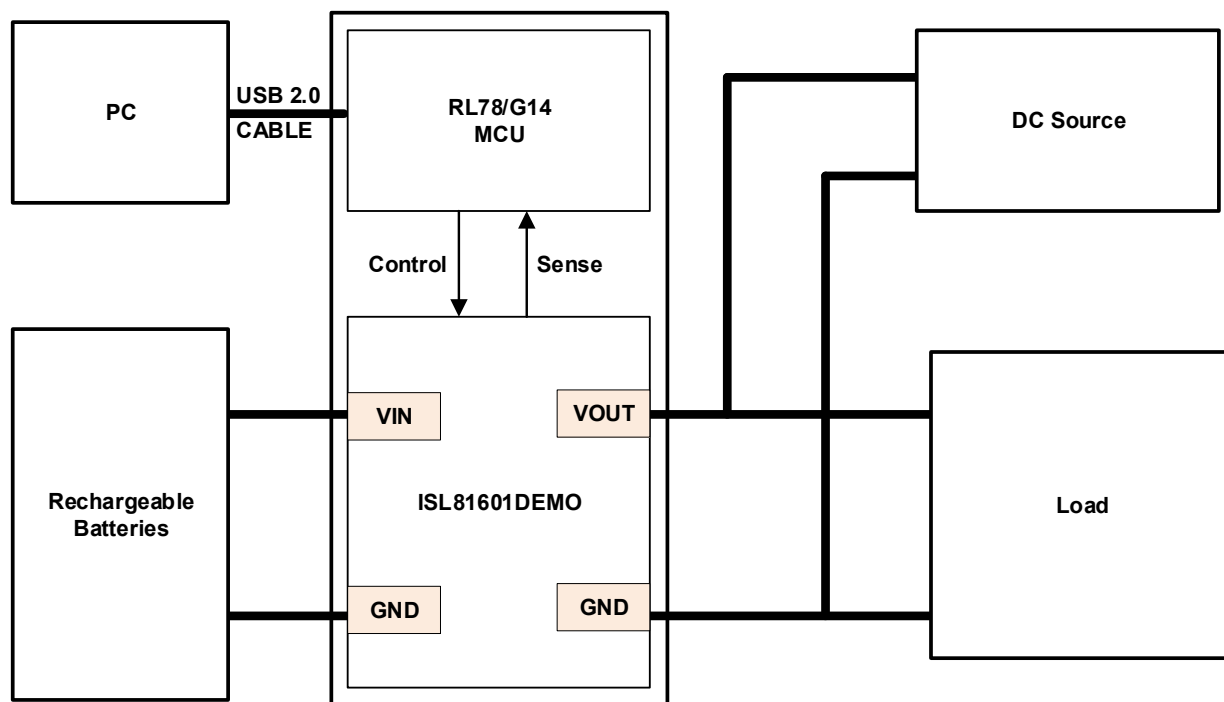

Figure 2. Hardware Connection
- Set up the hardware as shown in Figure 2.